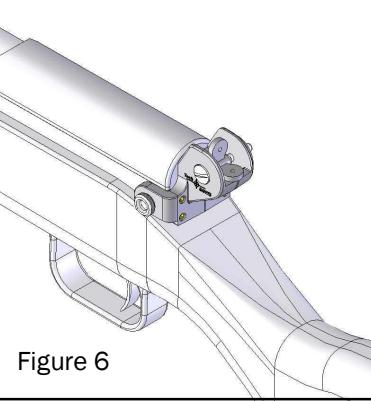

Figure 6
9. Thread the cross screw into the nut and continue to tighten the cross screw until the Sight Assembly is drawn tight to the right side of the Receiver. At this point the Sight Assembly should be snug against the right side of the Receiver, but still able to rotate on the Cross Screw. (See Figure 6)